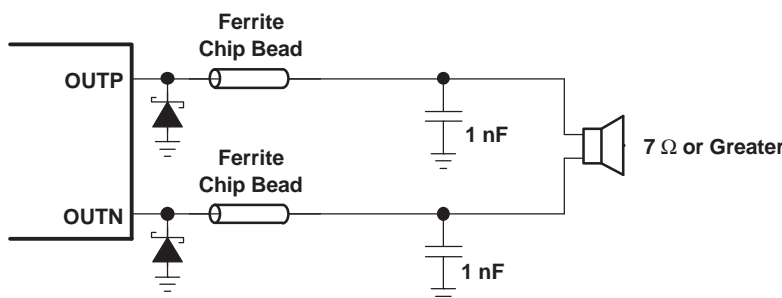
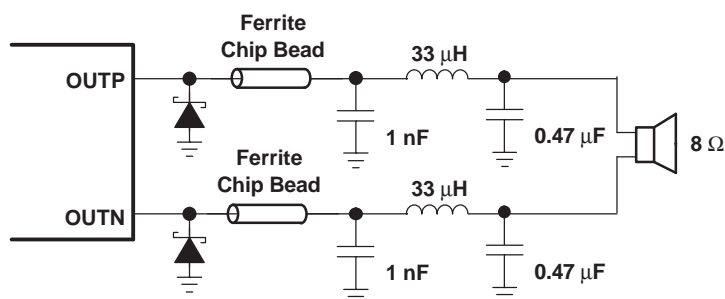

Figure 16. Typical Ferrite Chip Bead Filter (Chip bead example: Fair-Rite 2512067007Y3)
Figure 17. Typical LC Output Filter for 8-Ω Speaker, Cutoff Frequency of 41 kHz
A ferrite bead filter (shown in Figure 16) should be used in order to pass FCC and/or CE radiated emissions specifications and if a frequency sensitive circuit operating higher than 1 MHz is nearby. The ferrite filter reduces EMI around 1 MHz and higher (FCC and CE only test radiated emissions greater than 30 MHz). When selecting a ferrite bead, choose one with high impedance at high frequencies, but very low impedance at low frequencies.
Use an additional LC output filter if there are low frequency (<1 MHz) EMI sensitive circuits and/or there are long wires (greater than 11 inches) from the amplifier to the speaker, as shown in Figure 17.
- Output filter—The ferrite filter (Figure 16) should be placed as close to the output terminals (pins 10, 11, 14, and 15) as possible for the best EMI performance. The LC filter (Figure 17) should be placed close to the ferrite filter. The capacitors used in both the ferrite and LC filters should be grounded to power ground.